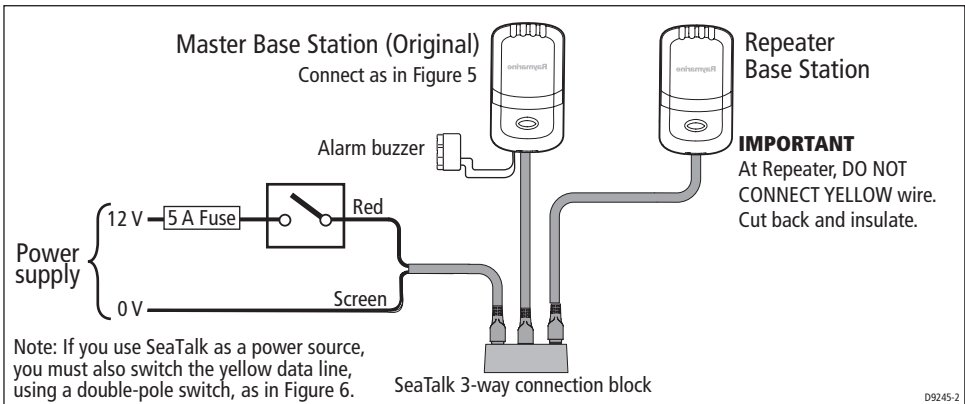

Figure 12 - Power connections when setting Master/Repeater Base Stations
4. Ensure that the 12 V dc supply is switched off, then connect both Base Stations, via a switch and 5 A fuse, to the supply as in *Figure 12*. Do NOT connect the yellow wire to the Repeater.